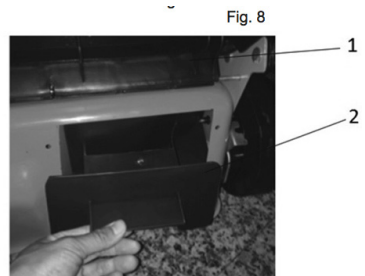

Fig. 8
1. Remove the grass catcher and hold the plastic grass catcher cover with your hand (Fig. 8)
2. Install the mulching plug into the discharge chute (Fig. 8) and make sure that the plug is seated firmly.